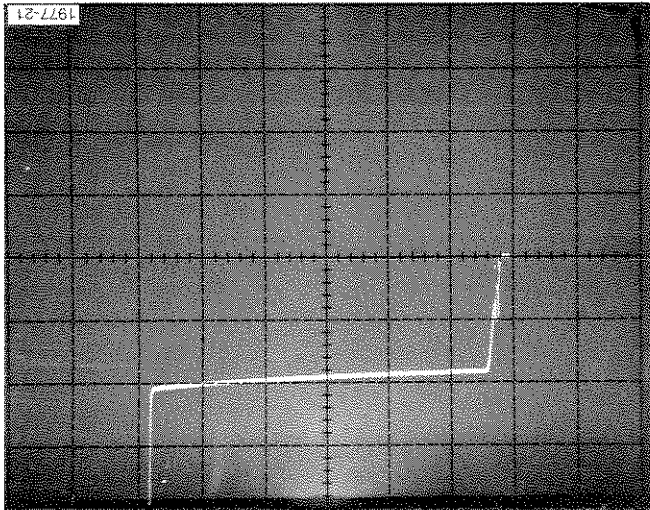

Fig. C-3. + Input bias current display.
- b. Check that the vertical display is  $\leq 3.75$  divisions from graticule center (= 75 nA, see Fig. C-3). Change the VERT UNITS/DIV switch setting if better resolution is needed.